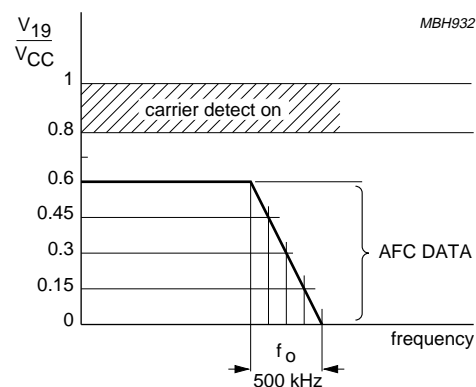

Fig.3 AFC and carrier detector output.
15. The outputs from the AFC and carrier detector are combined at pin 19 (see Fig.3). During search tuning, when the input frequency is outside the capture range, the combined output (carrier detector function) is at a LOW level (any voltage below 0.6VCC). When the PLL becomes locked, the voltage at pin 19 rises to a HIGH level (V19 = 0.8VCC to VCC). When the input channel is close to the centre frequency, V19 falls to the LOW level. As shown in Fig.3, the voltage at pin 19 is now a function of the centre frequency (AFC function). This information may be read by a microcontroller via the ADC of the satellite frequency synthesizer (TSA5055) and the I2C-bus.